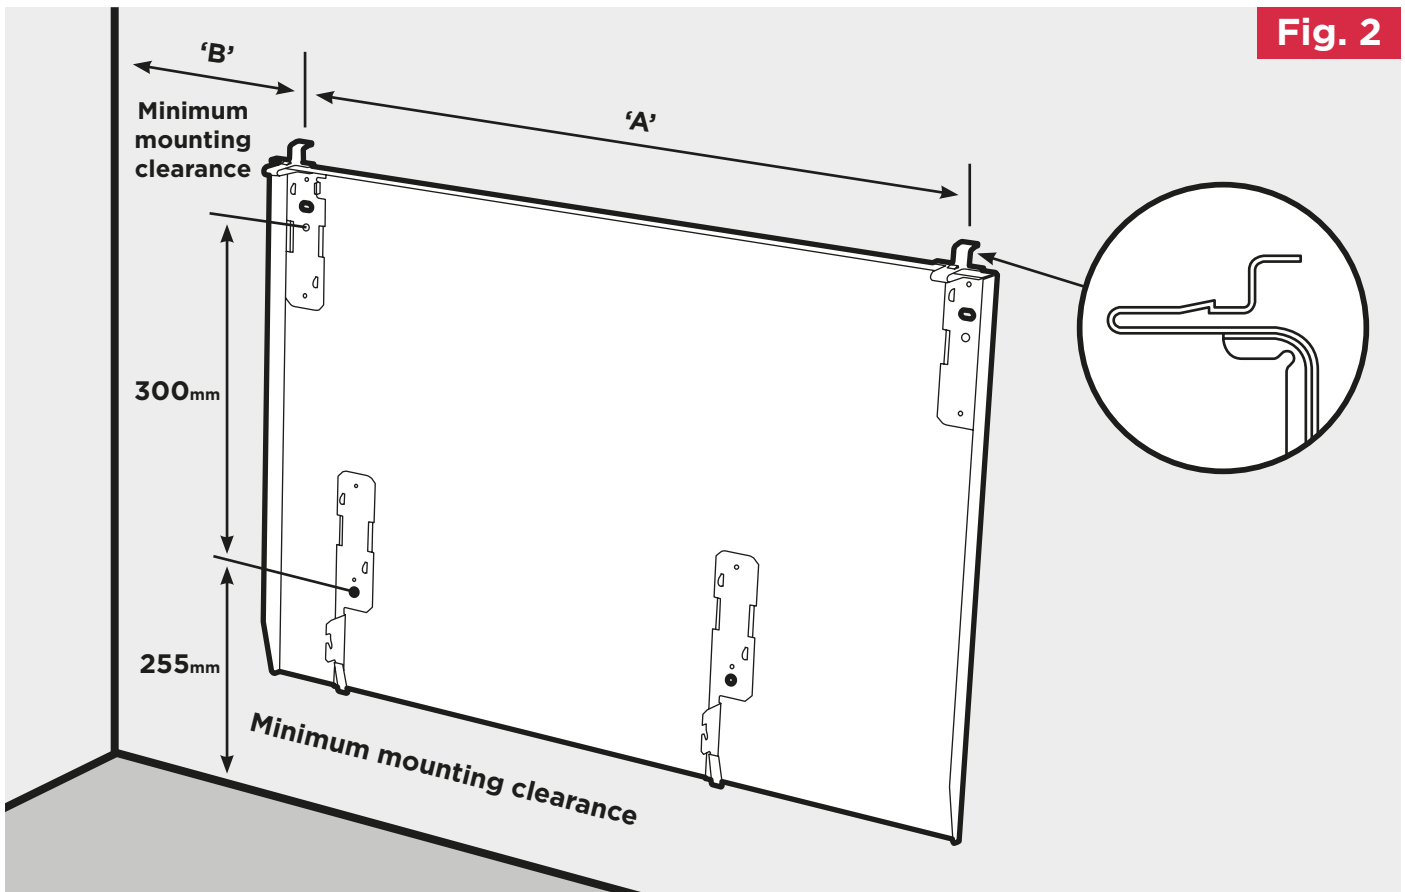
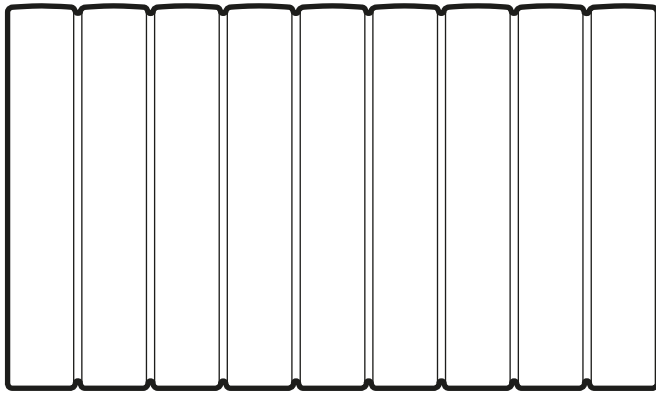

Fig. 2
Fig. 3
Please read the instructions closely before first using the product, there is also a quick-start guide on page 8 if you need a reminder of how to use the basic functions in the future. The heater is designed for wall mounting using the wall bracket supplied. It should only be operated when in the upright position as shown - see **Fig.3** and **Fig.4**. All models are splash proof to IP24. Before connecting the heater check that the supply voltage is the same as that stated on the heater.
IMPORTANT - The wall bracket supplied with the heater must be used and the heater must be installed in the correct orientation. The fixings should be used to secure the bracket to the particular wall on which the heater will be installed. The heater should be positioned observing the minimum clearances stated around the heater - see **Fig. 2**, **Fig. 3** and **Fig. 4**.
1. Remove wall mounting bracket from the back of the heater by depressing the spring latch at the side of each bracket - see **Fig.2**.